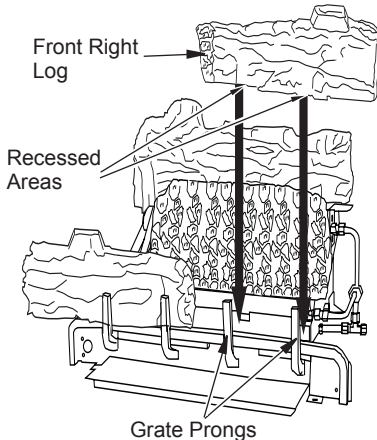

Figure 41 - Installing Front Right Log
4. Position front right log against right side of grate prongs (see Figure 41). The two recessed areas fit behind the two grate prongs.